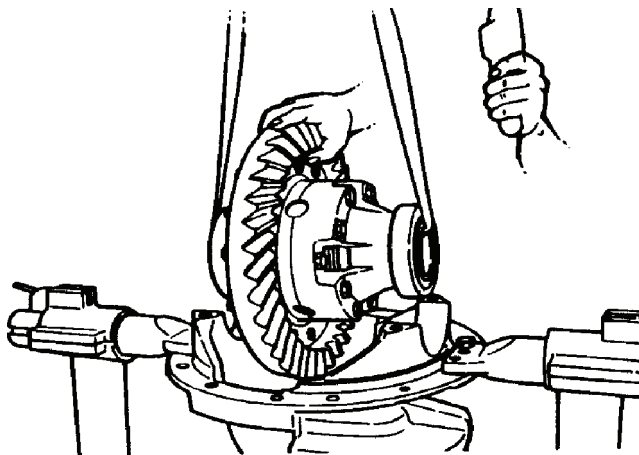

Figure 32. Main Differential Case and Ring Gear Removal.
- (7) Use a lifting sling to remove the main differential case and ring gear assembly from the carrier. Figure 32.